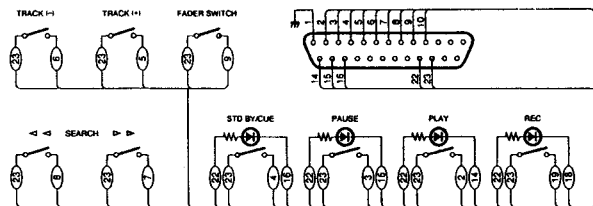

Figure 8
- b) To use this unit remotely, connect the remote connector (REMOTE) with the remote control circuit using a 25-pin Dsub cord. Refer to the example of the remote control circuit in Figure 8.